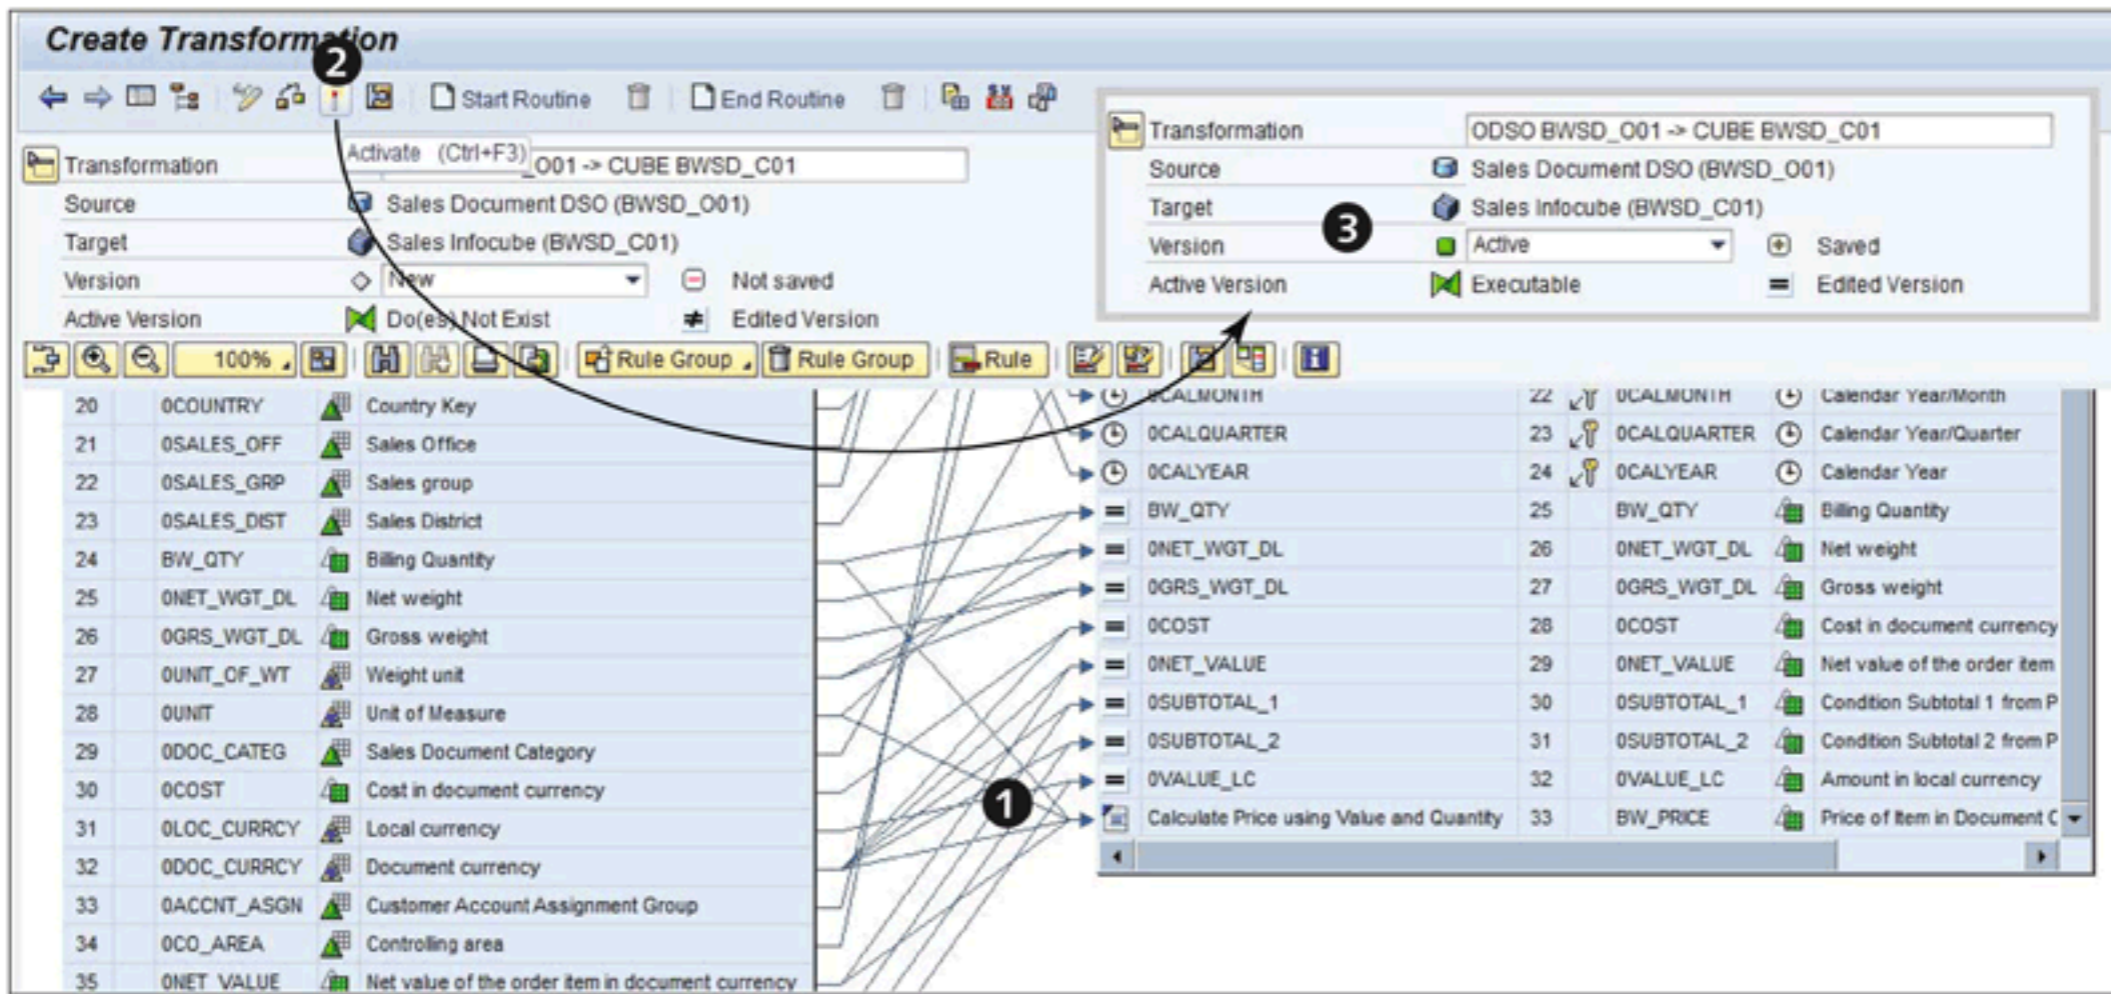

Figure 7.76 Activating the Transformation
Return to the RULE DETAILS box using the BACK icon, and click on TRANSFER VALUES to return to the main transformation screen (Figure 7.76). The ABAP routine
transformation type is attached to BW_PRICE, as shown in ❶ of Figure 7.76, and indicated by this icon: . Activate the transformation by clicking on the ACTIVATE icon (❷). Upon successful activation, the version is displayed as ACTIVE (❸).